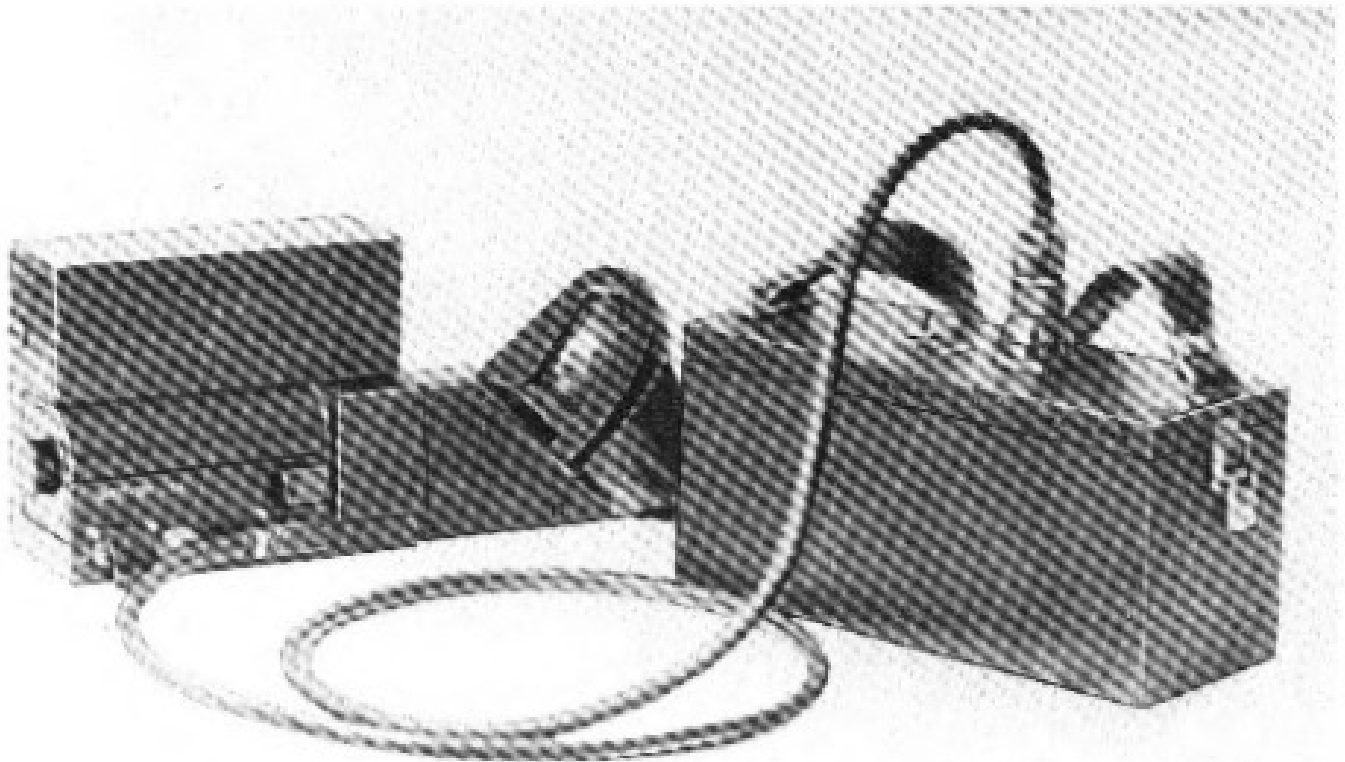

Fig. 2. Electric drive unit
4. 4. The power supply unit (Fig. 2) is a container, on the top cover of which there is a connector for connecting the power cable. A carrying strap is attached to the power supply. Eight SCS-5 batteries are installed in the container. The power supply is switched on by a toggle switch located next to the connector.